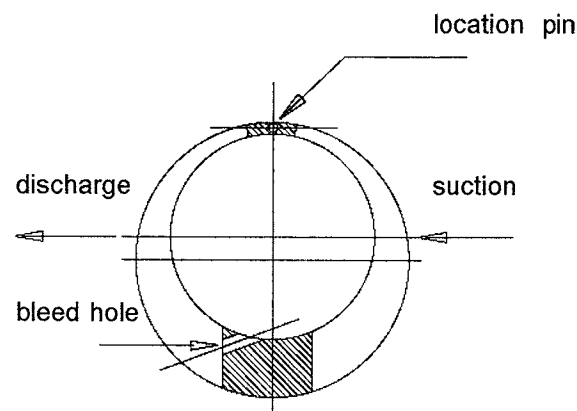

Figure 5
12. Fit liner to body with bleed hole to pump discharge and thick section to bottom of pump. Refer Fig. 5. Leave liner protruding about 10mm from drive end.